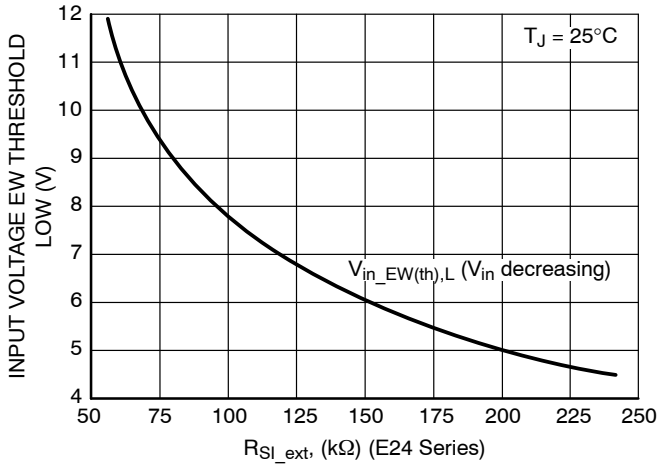
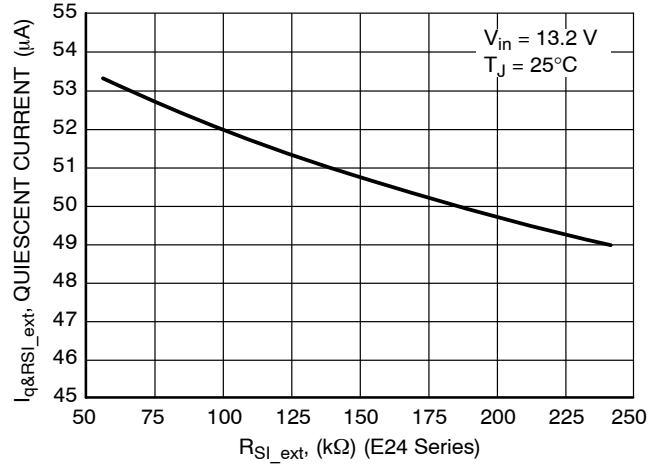

Figure 26. Input Voltage EW Threshold Low vs. R_{SI_ext} (Calculated Using E24 Series)
Figure 27. Quiescent Current vs. R_{SI_ext} (Including I_{RSI_ext} , Calculated Using E24 Series)
| Early Warning Input Voltage Threshold (Preset EW Threshold Values) NCV8667y2 High Low | $R_{SI1} = 480\text{ k}\Omega$, $R_{SI2} = 520\text{ k}\Omega$ (internal resistor divider values, see Figure 3) $R_{SI_ext} = 150\text{ k}\Omega$ ($\pm 1\%$, $\pm 100\text{ ppm}/^\circ\text{C}$) (external resistor value, see Figure 26) | $V_{in_EW(th)}$ | 5.67 5.30 | 6.30 5.89 | 6.92 6.47 | V |
13. I_q for Preset EW Threshold Options is measured when R_{SI_ext} is not used. For typical values of I_q vs R_{SI_ext} see Figure 27.
Practically only preset options above 4.5 V can be used without R_{SI_ext} due to minimum operating input voltage value limitation. For other preset options the trip point has to be adjusted externally using R_{SI_ext} resistor connected between input monitor SI and GND (see Figure 1). For other preset options R_{SI_ext} has to be used to achieve V_{in_EW(th)} > 5.5 V (minimum operating input voltage value). The value for R_{SI_ext} is recommended to be selected in range from 50 kΩ to 250 kΩ and the trip point can be shifted according to Figure 26. In case of R_{SI_ext} values higher than 200 kΩ two resistors in series could be used in order to eliminate leakage current of the resistor and hence ensure precision of its resistance value. The higher is R_{SI_ext} the lower is overall Quiescent Current of the application (see Figure 27). General formulas for calculation of V_{in_EW(th)Low} or R_{SI_ext}
The Sense Output is from an open drain driver with an internal 30 kΩ pull up resistor to V_{out} . Figure 26 shows the SO Monitor timing waveforms as a result of the circuit depicted in Figure 1. If the input voltage decreases the output voltage decreases as well. If the SI input low threshold voltage is crossed it causes the voltage on the SO output goes low sending a warning signal to the microprocessor that a reset signal may occur in a short period of time. TWARNING is the time the microprocessor has to complete the function it is currently working on and get ready for the reset shutdown signal.